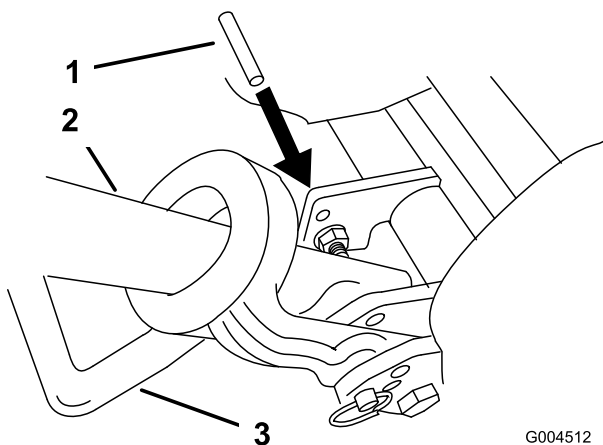

Figure 46
2. Lower kick stand. Insert a 1/4" dia. pin or equivalent into frame hole above kick stand mounting bolt (Figure 46).